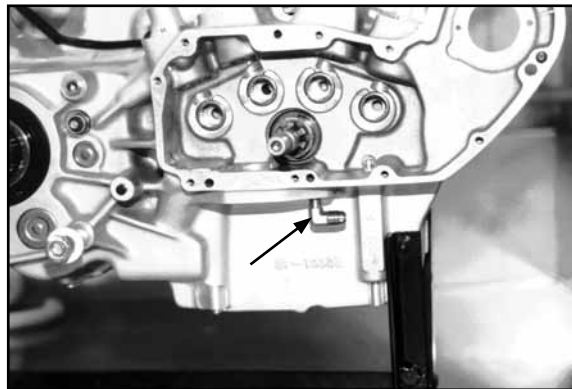

**Figure 1**
3. Assemble crankcase halves. Tighten fasteners in pattern specified in **Figure 1** below. Crankcase bolt torque specs are: